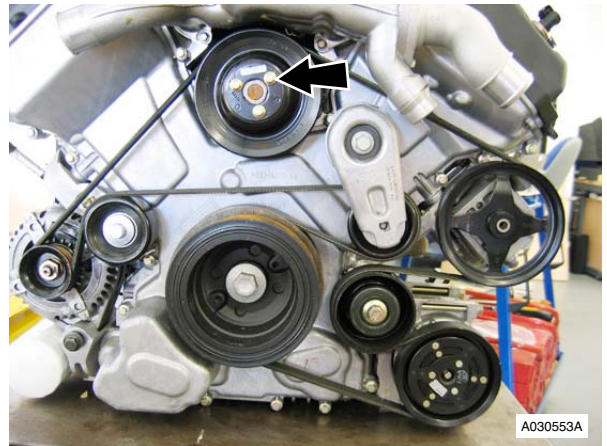

Figure 2
12. Loosen the three water pump pulley bolts (refer to Figure 2).